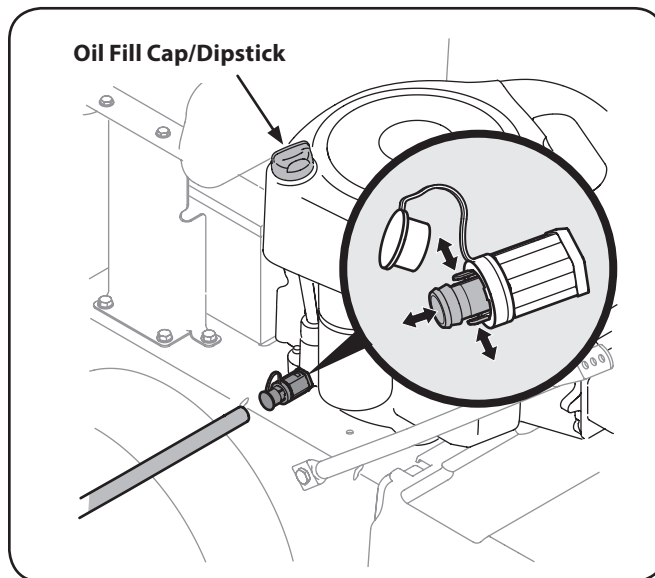

Figure 6-2
4. Pop open the protective cap on the end of the oil drain valve to expose the drain port. See Figure 6-2.
7. Pinch the tabs on the oil drain valve, then pull outward to begin draining oil. See Figure 6-2.